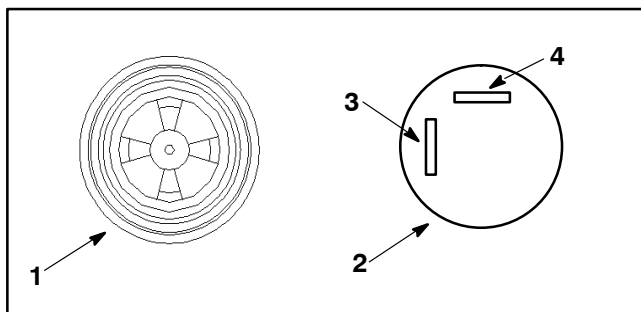

Figure 6
1. Isolate alarm from the circuit. Correctly connect 12VDC source to the terminals (Fig. 6).